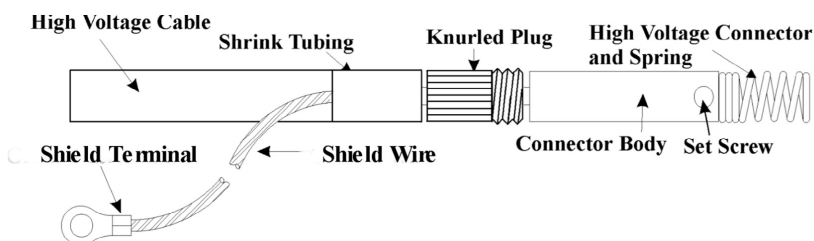

Figure 1
1. Determine the location for mounting the neutralizing bar and power supply. Refer to Figure 1 for TrueAC cable connections. Some cable assemblies have SLCC high voltage connector preinstalled.
The equipment you have ordered may be supplied with a spring-loaded connector installed. If so, keep these instructions for use when ordering a replacement connector. If the spring-loaded connector is not installed, follow the instructions below, using Figure 1 as a guide.